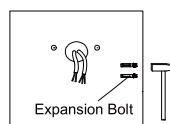

figure 9
Step 2: Knock the expansion bolts into the wall.(Figure 9)